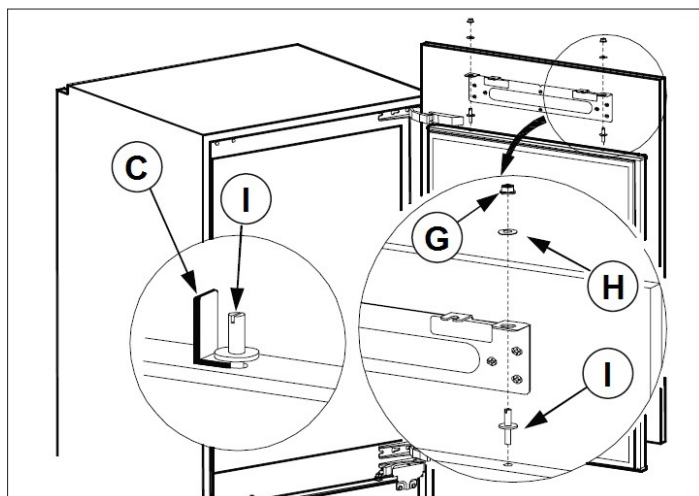

Fig. 14
22. Unscrew the door hinges from the refrigerator door. Screw the adjustable screws (I) into the refrigerator top door lightly and leave a little gap between the adjustable screws (I) and the refrigerator door (Fig. 14).
23. Put the refrigerator cover on the adjustable screws (I) when the door is opened and secure it with nuts (G), (Fig. 14).